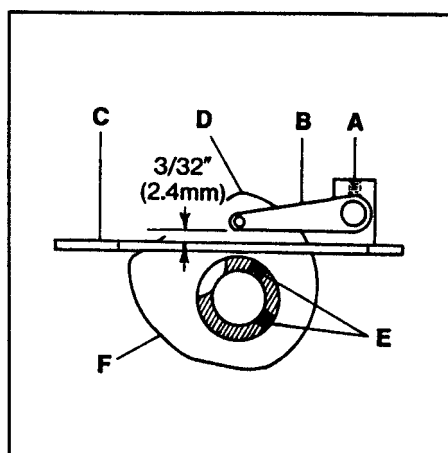

FIG. 35
Loosen screw (A, Fig. 35) and set the lower edge of cover thread take-up eyelet (B) so its $3/32$ " (2.4mm) above the surface of cast-off plate (C). Tighten screw (A). As the cover thread hook moves to the left over the cover thread and the needle bar starts to rise, the cover thread must "cast-off" from the high point of take-up (D). Loosen screws (E) and adjust take-up (F) accordingly. make sure that take-up (F) is centered in cast-off plate slot (C) and take-up eyelet (B) is centered to take-up (F). Tighten screws (E).